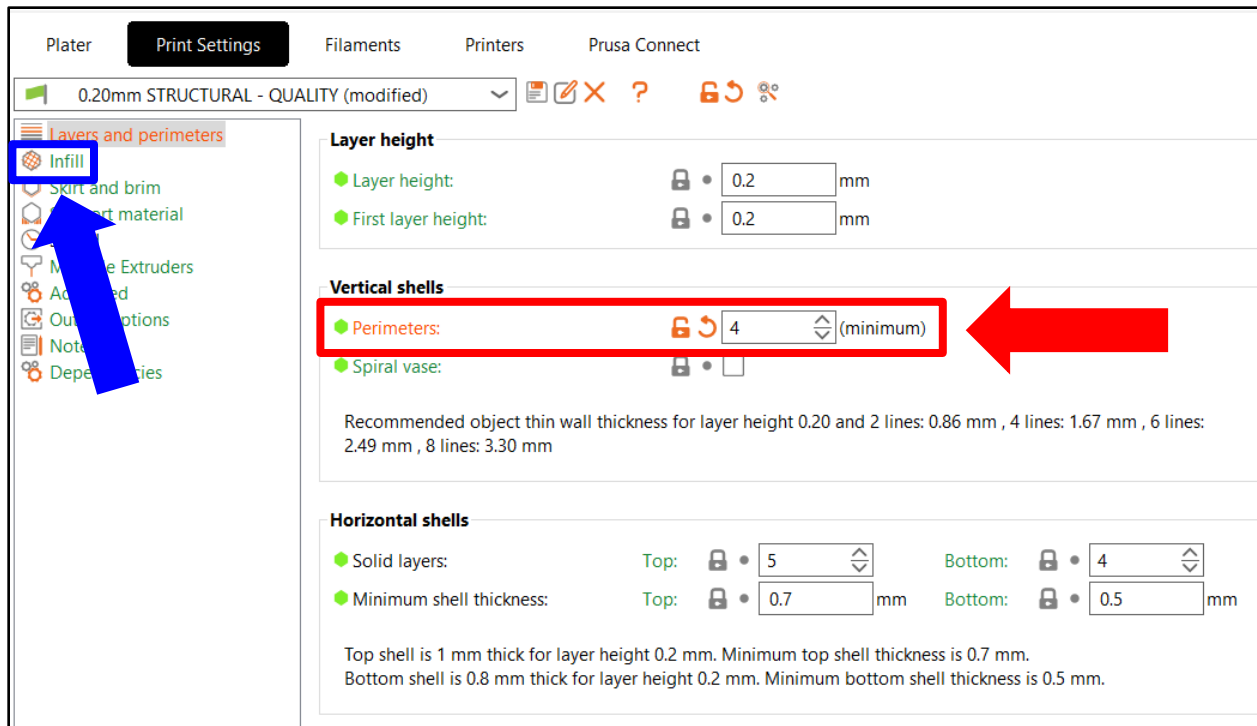

Figure 2. Adjusted Perimeter Settings.
- 3.) Go to the “Print Settings” tab in the top left corner of PrusaSlicer and change the number of perimeters to 4 (see red arrow in Figure 2). Then double-click on the “Infill” subtab (see blue arrow in Figure 2).